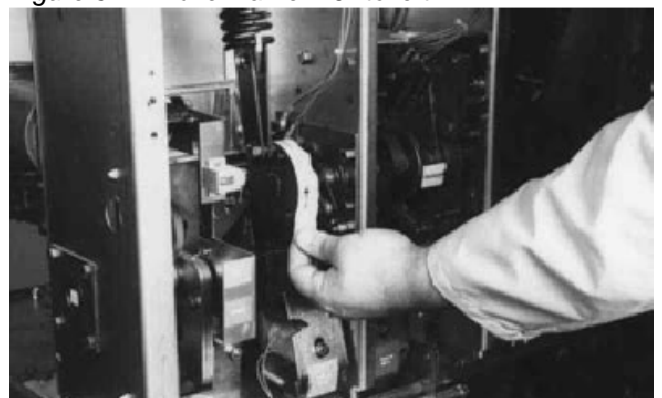

Figure 6-16 Remove Marked Masking Tape from Cam
Step 12 - Inspect the circuit breaker to assure it is in the open position and the closing springs are discharged. Remove the transparent CloSure™ Tool. Remove the tape from the cam and stick the tape on the front right side sheet of the circuit breaker. Record the date of the test and the operations counter reading on the tape (Figures 6-16 and 6-17 and 6-18).